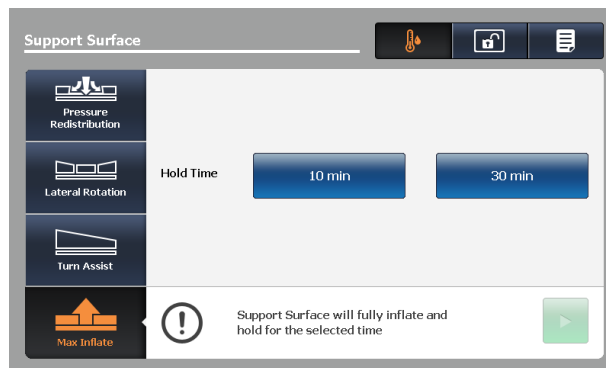

Figure 57 – Max inflate screen
1. Tap **Max Inflate** (Figure 57).